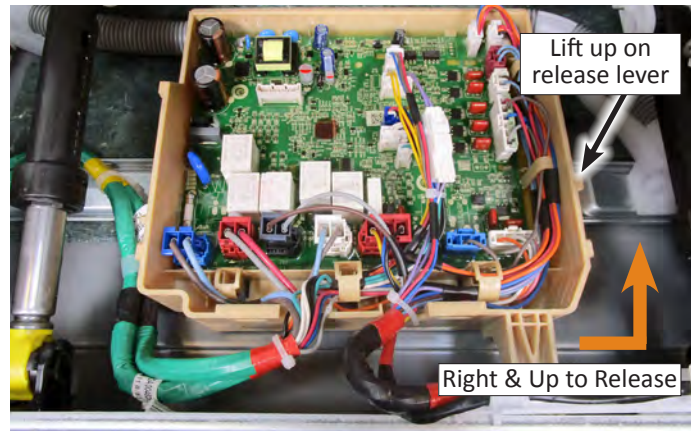

Figure 3
7. Disconnect all harness from the ACU. (All harness connectors are color coded to the board connectors.) See Figure 3. **(See Important Note below-left.)**
8. Lift up on the plastic release lever attached to the ACU. At the same time, slide the ACU to the right and then up to release the ACU tabs from the slots in the washer cabinet. See Figure 3.